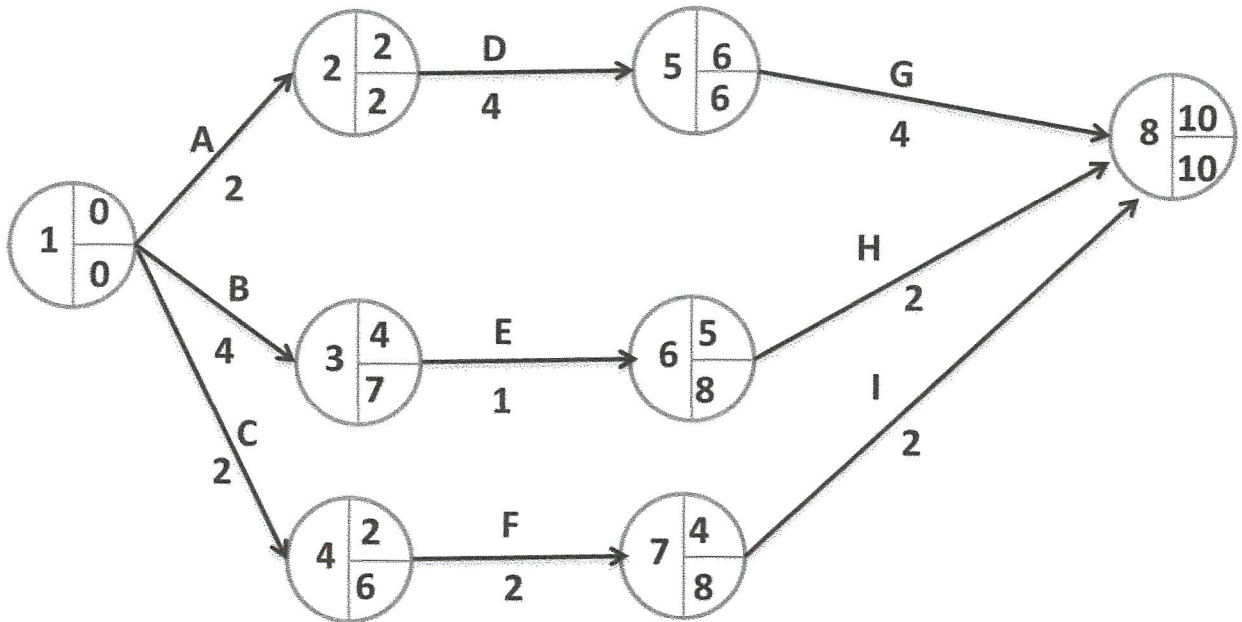

FIGURE Q3
(ii) Construct a bar chart for an Arrow Diagram Method (ADM) provided in **Figure Q3**. Show a Total Float (TF) for each of the activities clearly in the bar chart. (5 marks)
(iii) Produce a table with calculation to determine Total Float (TF) for each activity in **Figure Q3**. The table should consist Early Start (ES), Early Finish (EF), Late Start (LS), Late Finish (LF). (2 marks)